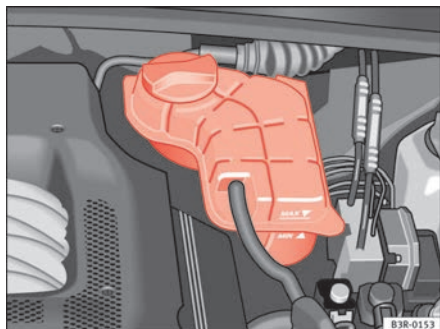

Fig. 167 Engine compartment: Liquid coolant deposit
- Check the coolant level on liquid coolant expansion tank ⇒ fig. 167. When the engine is cold, it should be between the “min” and “max” marks. When the engine is hot, it may be slightly above the “max” mark.
- Cover the cap on the expansion tank ⇒ fig. 167 with a cloth, and **carefully** unscrew the cap anti-clockwise ⇒ .